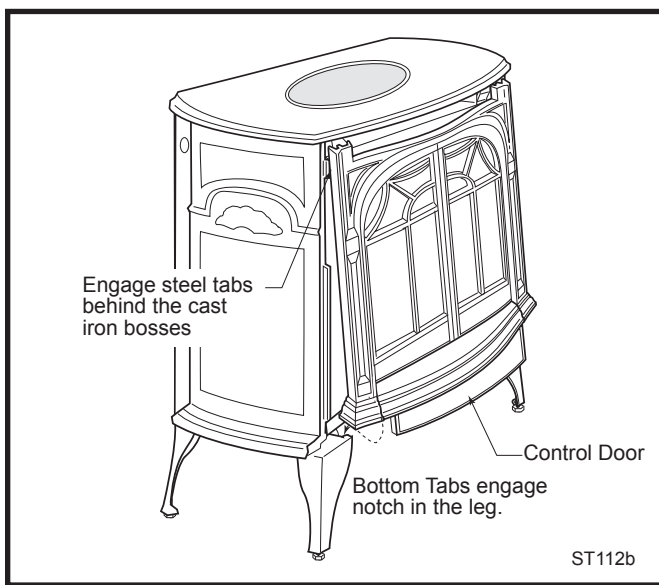

Fig. 17 Install the Front Plate. Your Front may look different from that shown.
2. Grasp the front plate by the window bars and lift into position engaging the two steel tabs behind the adjacent bosses in the side plates. (Fig. 17) Seat the front against the sides so the tabs at the bottom lip engage with the notches in the stove legs.
2. Lift the Front plate up and then swing the bottom out to disengage it from the heater shell. (Page 13, Fig. 17)